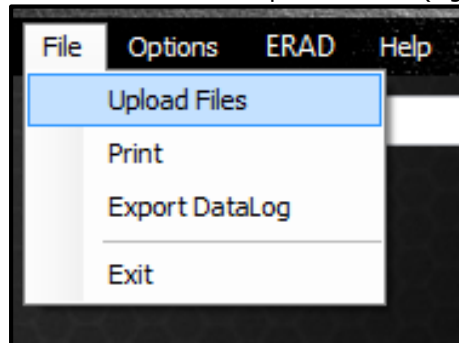

Figure 6.7-2: Upload Files from File Menu
9. Select **Upload Files** from the File drop down menu (Figure 6.7-2).